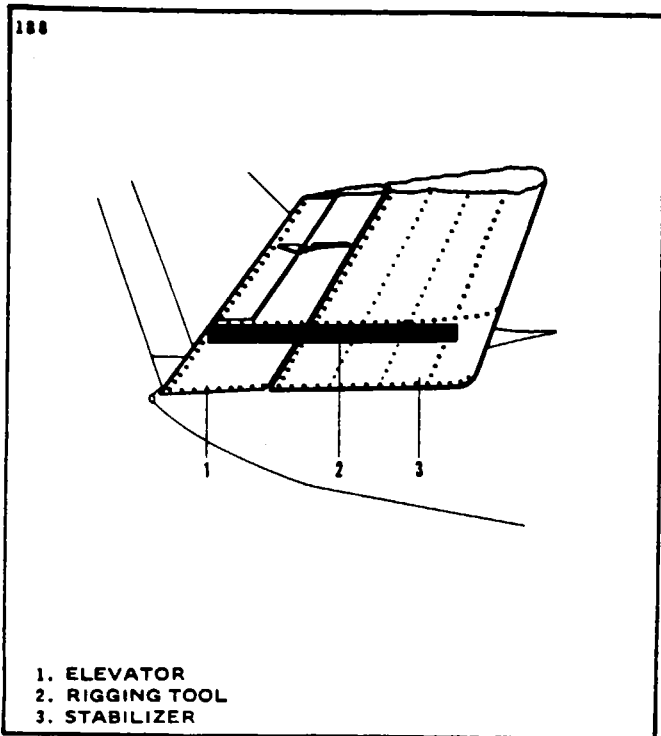

Figure 5-7. Installation of Elevator Rigging Tool
b. Put the elevator in neutral position by placing a modified straight edge, as shown in Figure 5-7, against the underside of the horizontal stabilizer, next to and inboard of the row of rivets at station 19.00 with the aft end of the tool even with the trailing edge of the elevator. (This tool may be fabricated from dimensions given in Figure 5-32.)
c. With the elevator in neutral position, check or adjust the elevator bellcrank (14) for neutral. The bellcrank is neutral when the center of the forward attachment bolt (23) of the elevator control rod (15) is at eight inches as measured perpendicular back from the bulkhead at station 317.75. Obtain this setting by turning the control rod end (26) to the desired length and secure with jam nut (28).
d. With the elevator bellcrank neutral, adjust the turnbuckles (3) at fuselage station 110.50 to obtain cable tension as given in Table V-II and correct tension to ambient temperature per Table V-I. Allow the control wheel to neutralize fore and aft. The neutral position of the control wheel is 8.75 ± 0.25 inches as measured from the instrument panel along the underside of the control column to the wheel.
e. To set the proper tension of the elevator balance spring (16), connect a spring scale to the aft end of the spring and pull rearward until 37 lbs. \pm 1 lb. tension is obtained with the elevator in the neutral position. Observe which hole in the link (17) is in line with the hood at the end of the spring and connect the spring into this hole in the link. If 37 Lbs. + 1 Lbs. cannot be reached with existing link holes, refer to latest revision of Piper-Service Bulletins 549, and 626